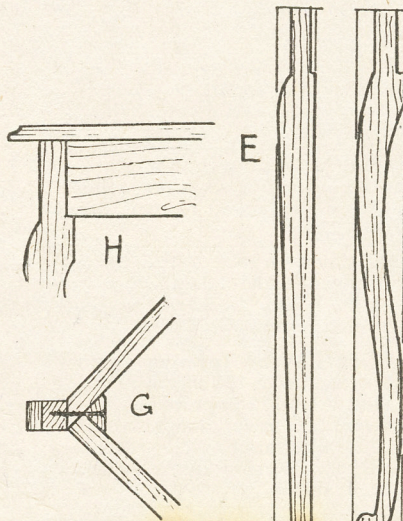

Fig. 4—Two designs of fancy type, with corner details
Light fancy legs, just the thing for side tables, can be cut from board. ¾in. or a little more or less. Two suggested designs for these are given at (E) and (F) in Fig. 4. That at (E) can be cut from 1½in. wide strip, that at (F) a little more elaborate, from 2in. to 2½in. strip. The latter curved form can be sawn to shape with a bow saw.